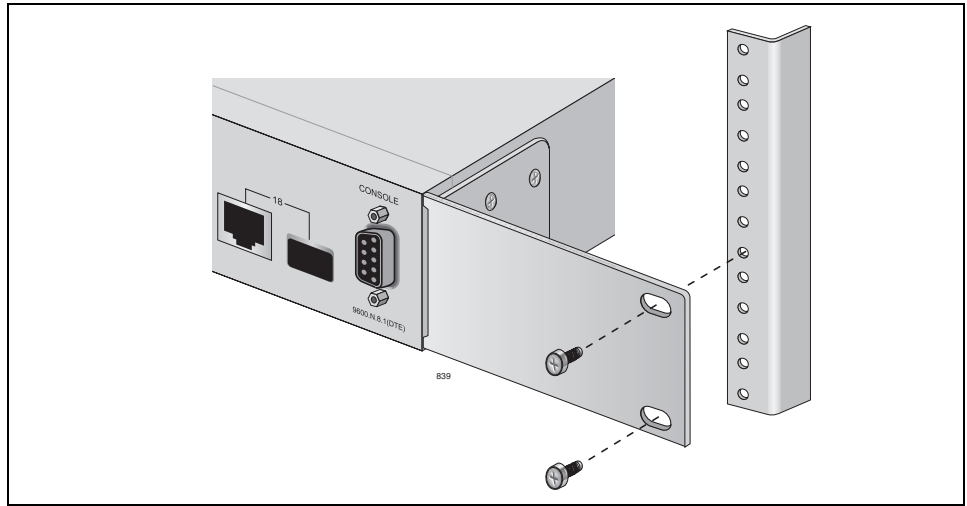
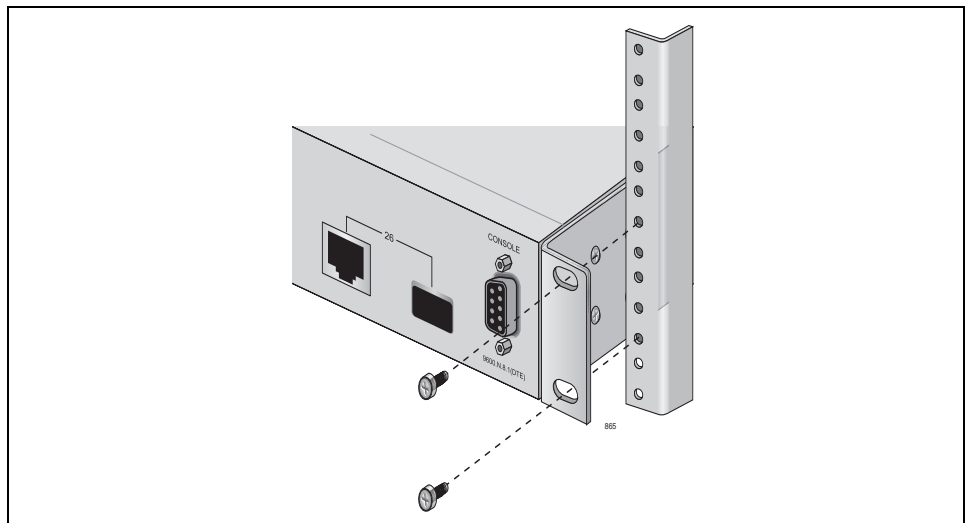

Figure 9. Mounting the AT-FS750/16 Switch in an Equipment Rack
Figure 10. Mounting the AT-FS750/24 Switch in an Equipment Rack
4. Mount the switch in a standard 19-inch equipment rack using the four large screws included. Figure 9 and Figure 10 show how to mount the AT-FS750/16 and AT-FS750/24 Switches, respectively.